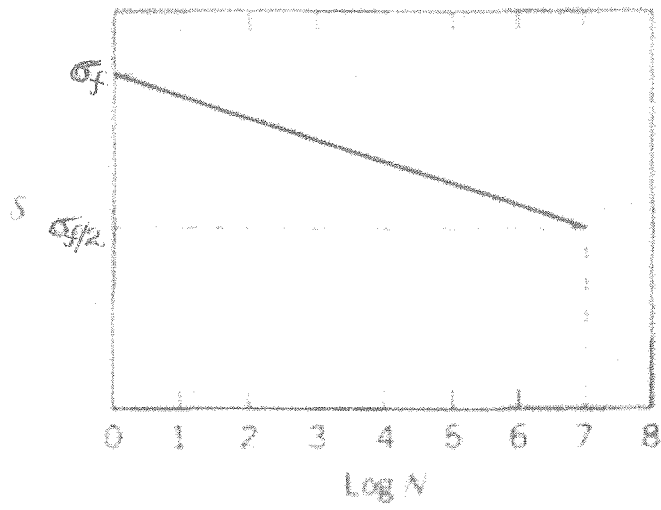

Figure Q3
- d) Consider a hypothetical material in which the S-N curve is linear from a value equal to the fracture stress  $\sigma_f$  at one cycle ( $\log N = 0$ ), falling to a value of  $\sigma_f/2$  at  $\log N = 7$  as shown in **Figure Q3**. This behaviour can be described by the following equation